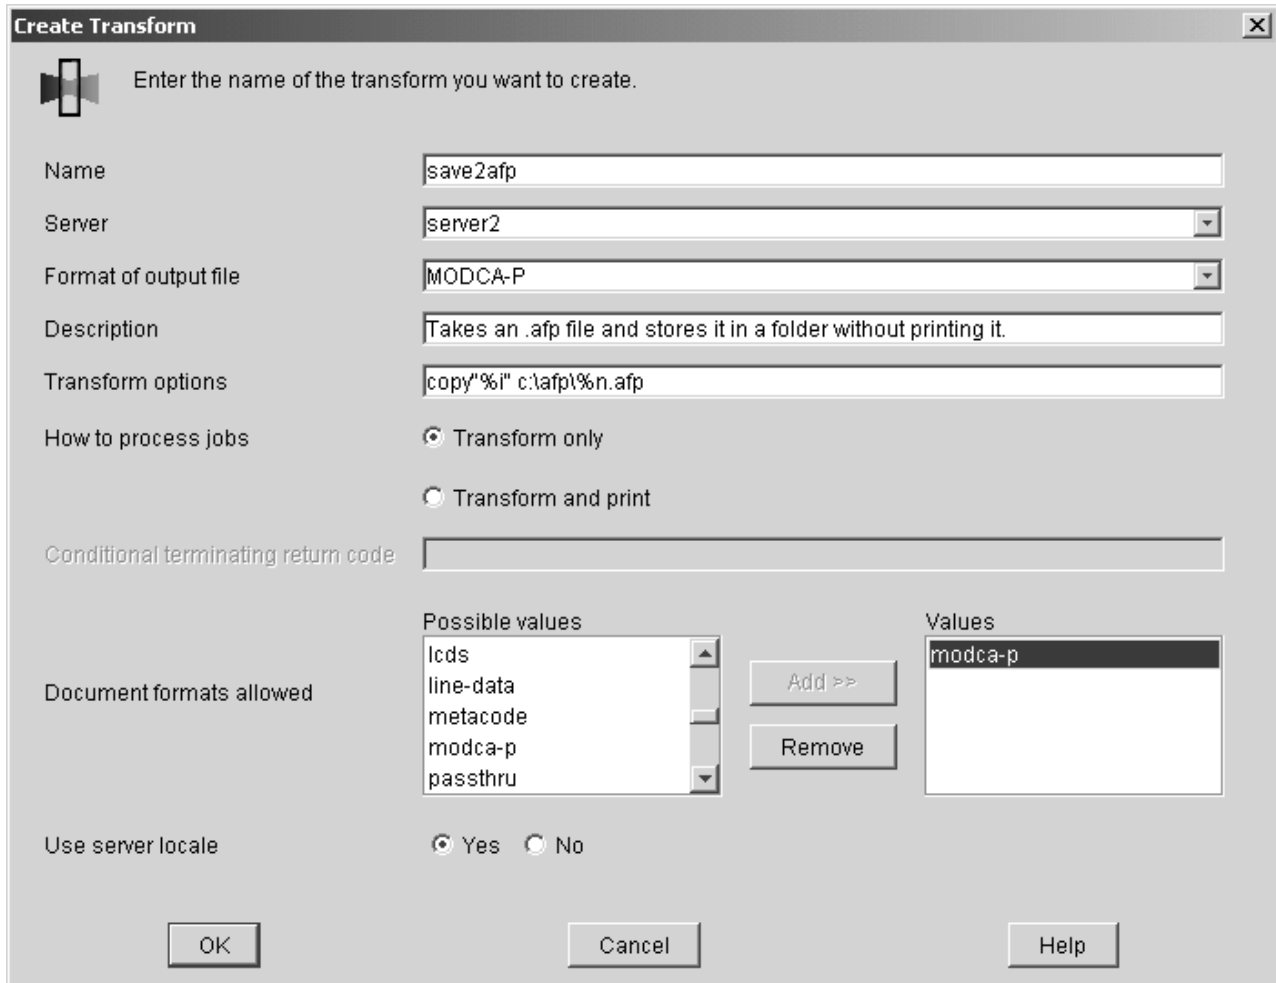
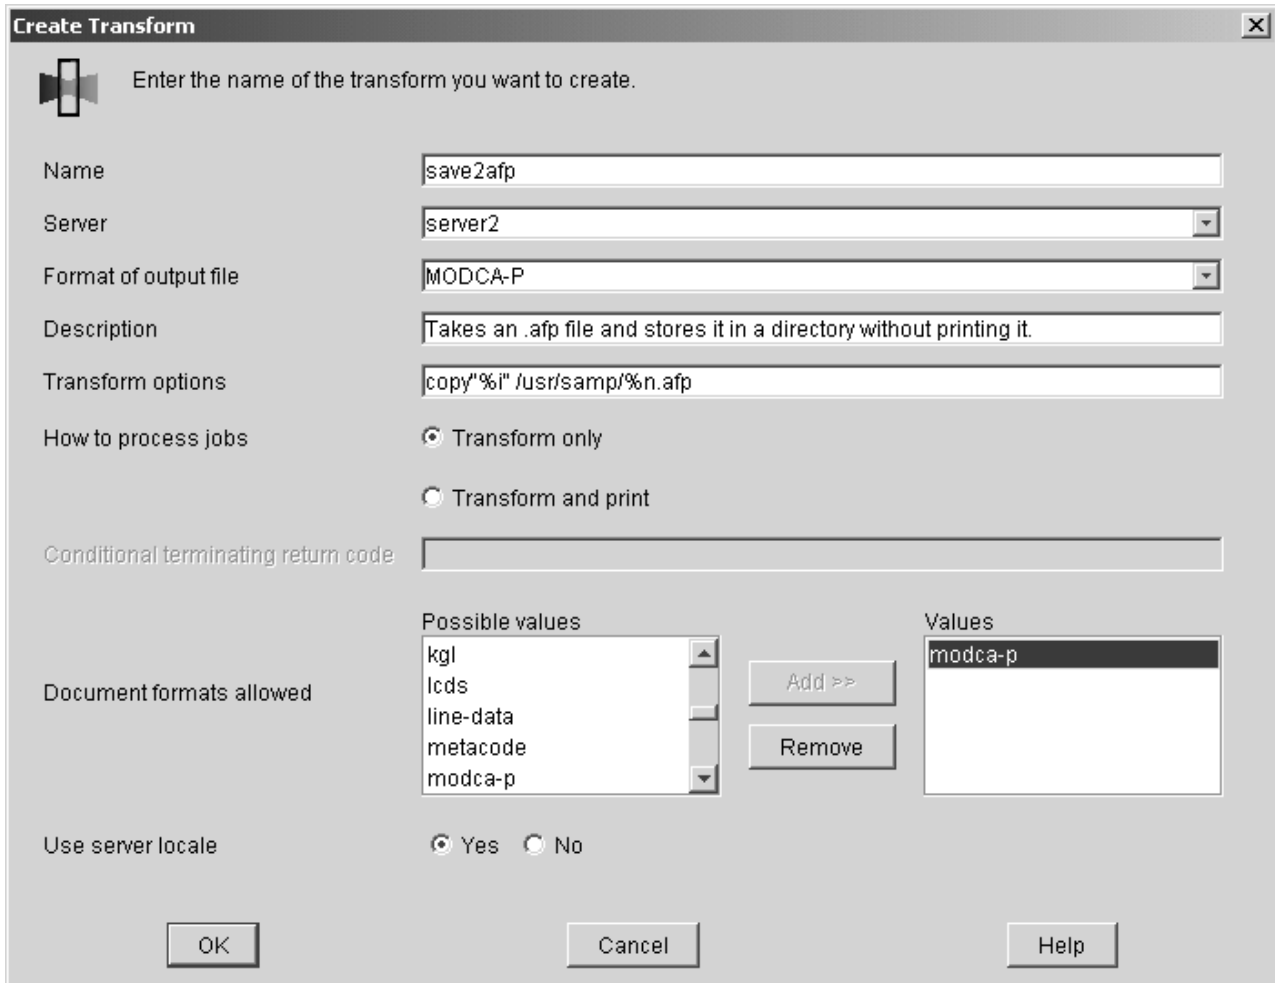

Figure 15. Create Transform dialog: Define a transform that copies an AFP file to a folder without printing on Windows
Figure 16. Create Transform dialog: Define a transform that copies an AFP file to a directory without printing on AIX
3. In the **Create Transform** dialog, fill in the fields as shown in either Figure 15 on page 217 or Figure 16 on page 218, depending upon your operating system. These values create a transform that copies AFP input data to an **\afp** folder on a specific drive on Windows or a **/usr/samp** file system on AIX. Also, it names the transformed file with the name of the original file name because of the **%n** substitution variable.